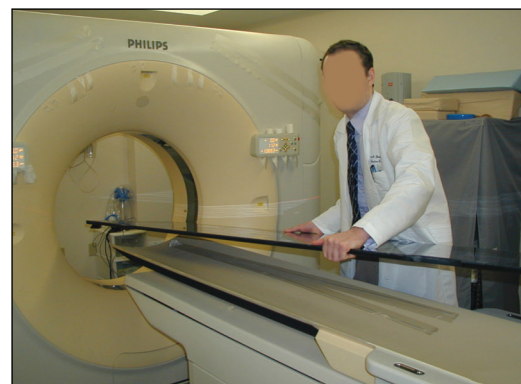

Fig. 28
2. Place the CT Overlay on the CT cradle overhanging the head end by 3–4 inches (Fig. 28). Align the CT Overlay on the centerline of the CT cradle (Fig. 29).